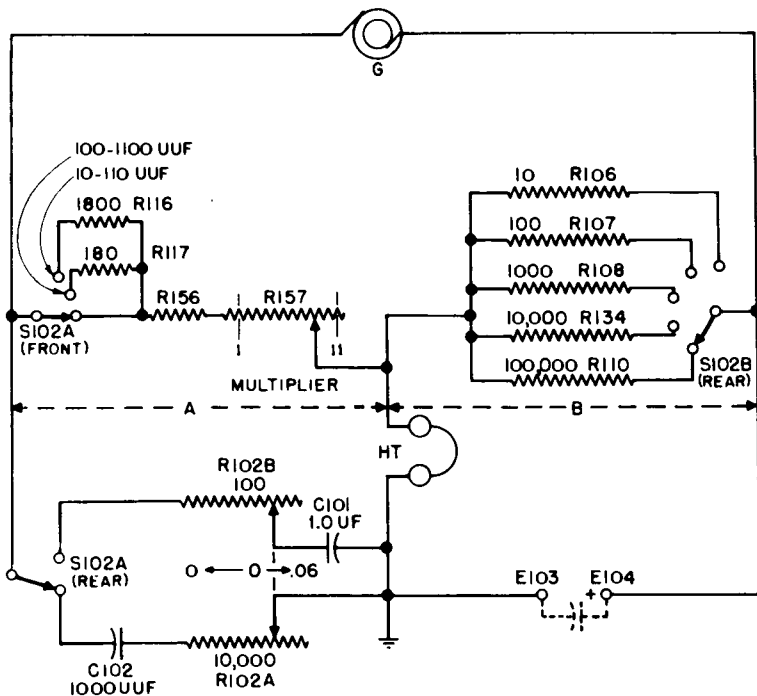

Figure 4-6. Capacitance Bridge, Measuring Circuit
c. The actual circuit arrangement for capacitance measurement is in Figure 4-6, corresponding to the "C" position of the FUNCTION switch. Note that the "A" arm is the same one used for resistance measurements as is the "B" arm with the addition of one resistor for an extreme range. Similarly, two capacitance standards are used. With these arrangements, eight continuous and progressive ranges in capacitance are formed as shown in Table 4-2.